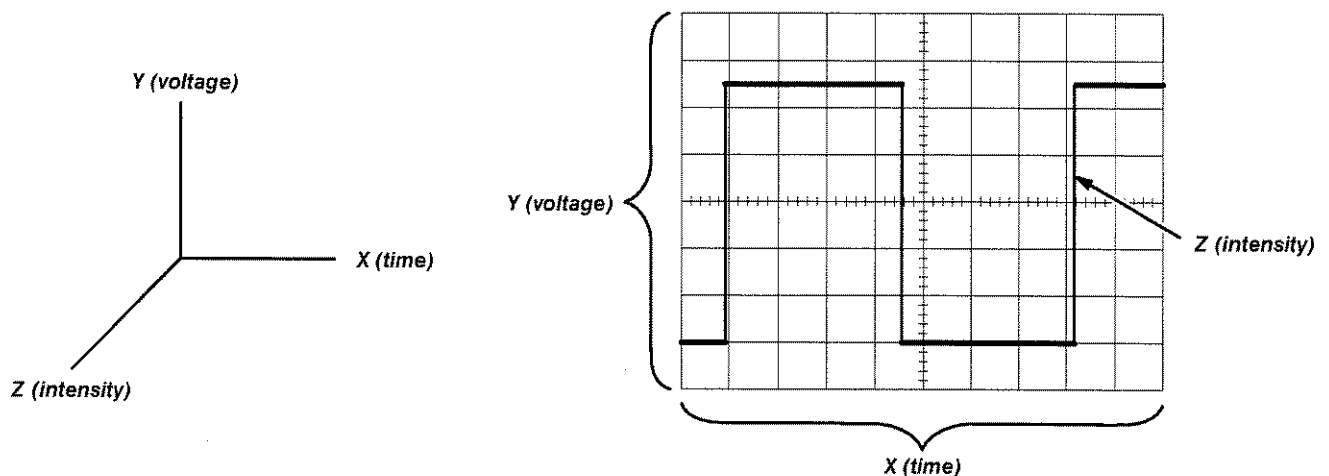

Figure 1: X, Y, and Z Components of a Displayed Waveform
The oscilloscope is basically a graph-displaying device — it draws a graph of an electrical signal. In most applications the graph shows how signals change over time: the vertical (Y) axis represents voltage and the horizontal (X) axis represents time. The intensity or brightness of the display is sometimes called the Z axis. (See Figure 1.) This simple graph can tell you many things about a signal. Here are a few:
- You can find out how much of a signal is direct current (DC) or alternating current (AC).